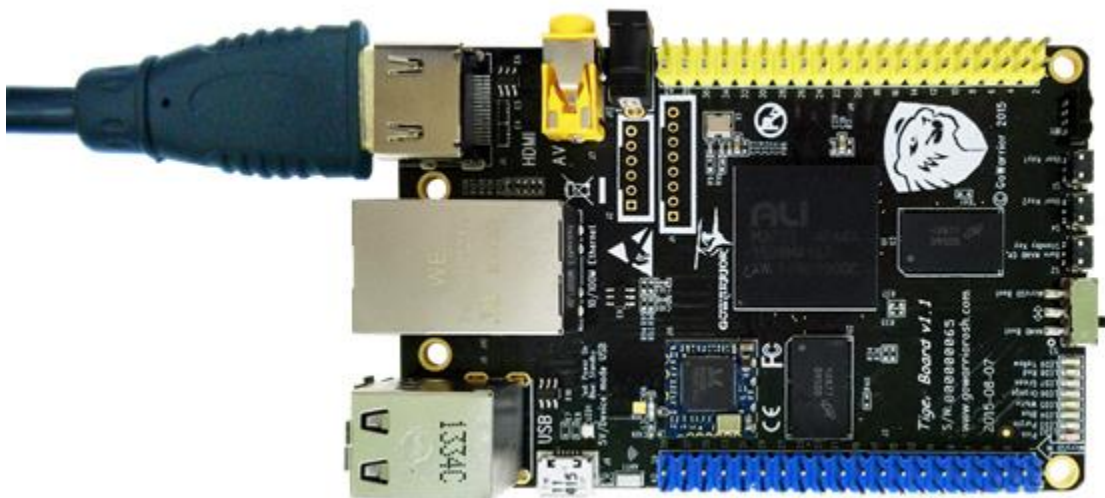

Figure 14. Connecting HDMI Cable to the Board
2. Connect HDMI Cable between TIGER Board and TV set. The connector is shown in Figure 14 below.